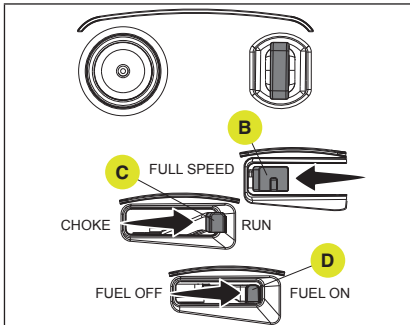
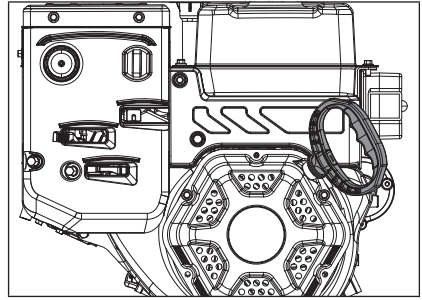

Figure 21
Figure 22
3. To start a warm engine: (Fig. 21)
- 3a. Move the throttle lever (B) to full speed.
- 3b. Move the choke lever (C) to the run position.
- 3c. Move the fuel shut-off lever (D) to the ON position.
- Stand back and to the right of the unit, pull the starter grip lightly until you feel resistance then pull briskly. Return the starter grip gently. (Fig. 22)